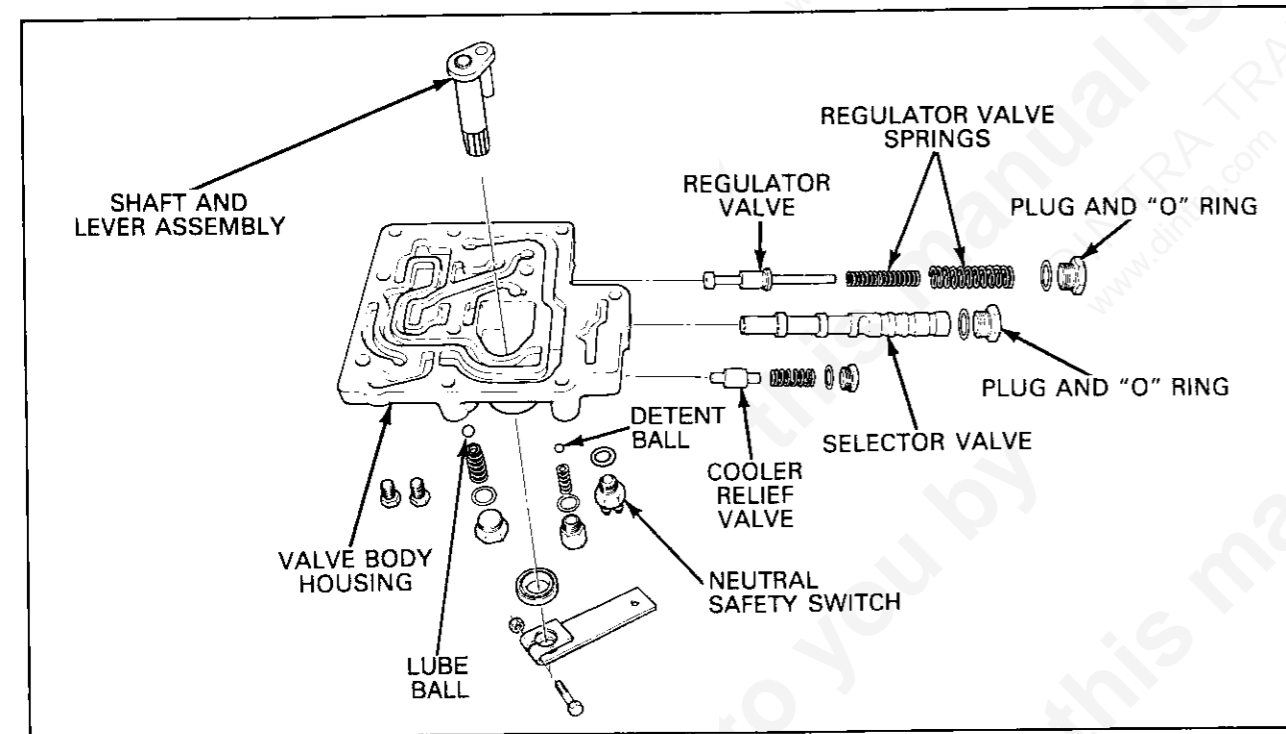

FIG. 18 VALVE BODY — EXPLODED VIEW
#### VALVE BODY DISASSEMBLY (Refer to Fig. 18)
#### VALVE BODY ASSEMBLY (Refer to Fig. 18)
5. Slide the selector valve into the selector bore of the valve body. Align the neutral (middle) poppet notch with the hole for the poppet ball and spring (Fig. 18). Assemble the poppet ball, spring, and plug with "O" ring. Tighten plug to the specified torque.